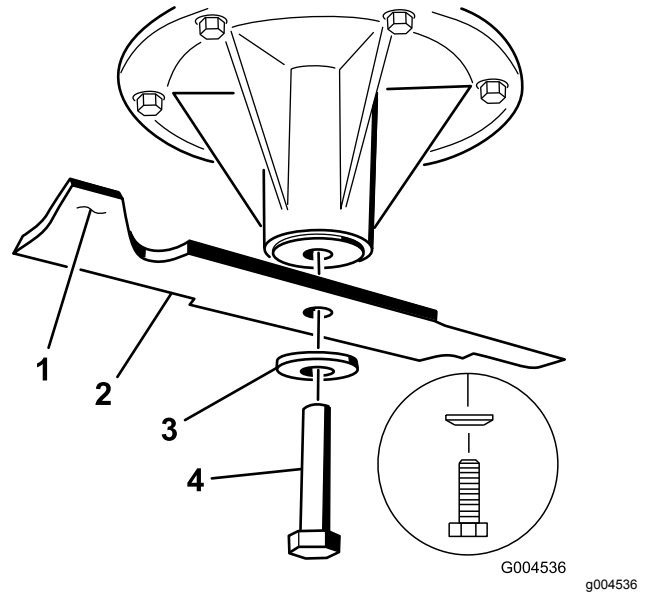

Figure 103
1. Install the blade onto the spindle shaft (Figure 103).
2. Install the spring disk and blade bolt (Figure 103).